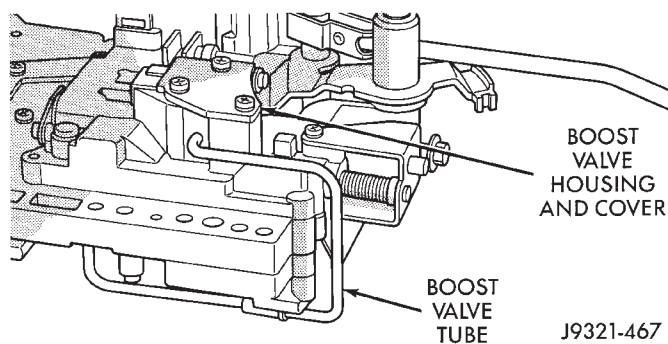

Fig. 48 Boost Valve Cover Location
(13) Remove boost valve cover (Fig. 48).